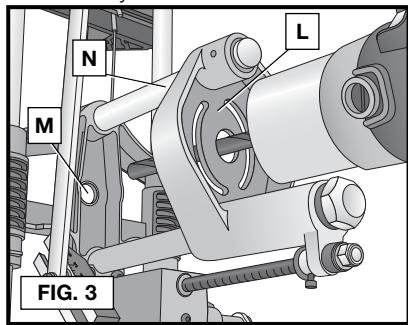

FIG. 3
2. Insert the splined cutter shaft (Fig. 3) through the motor carriage (L) and into the spiral grooved bushing (M) in the main frame (N). Orient motor as shown in Fig. 8 and seat it into the motor carriage.